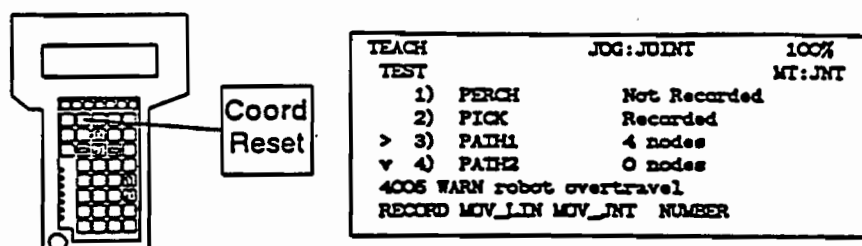
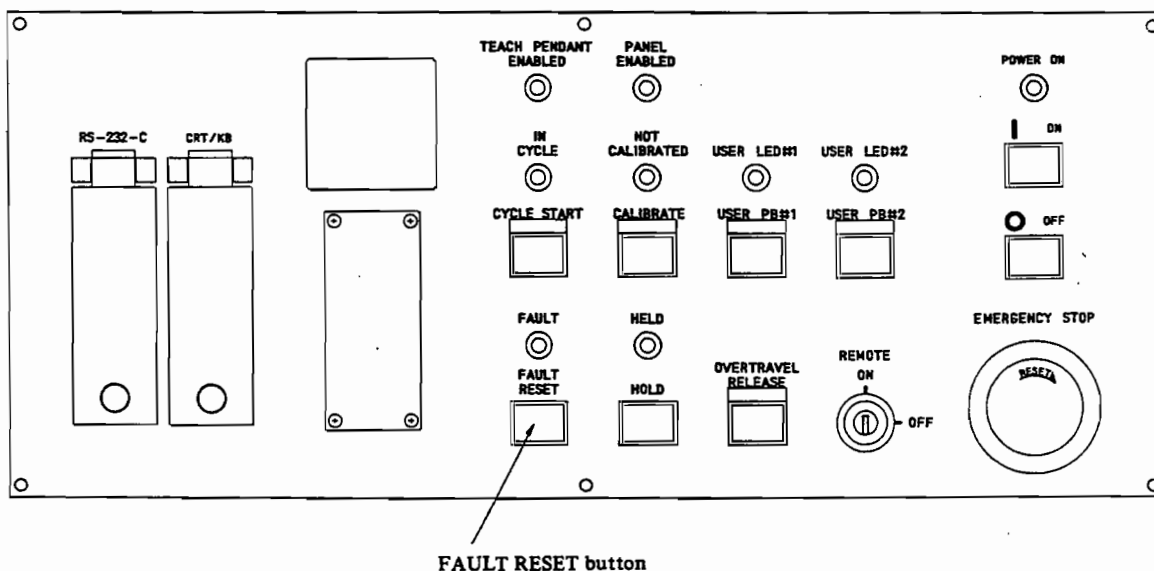

Fig. 4.2 Teach pendant RESET menu
Fig. 4.2.1 Operator's panel fault reset control
- 2) To recover from the error and resume operation, press the RESET function key (F3) on the teach pendant, shown in Fig. 4.2, or the FAULT RESET button on the operator's panel, shown in Fig. 4.2.1.